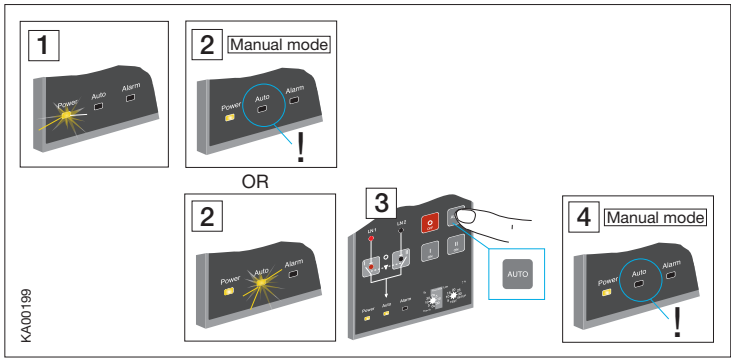

Figure 6.7 Selecting the automatic control units OMD200 and OMD300 to Manual Mode
1. Set device to MANUAL mode according to the Figure 6.7.